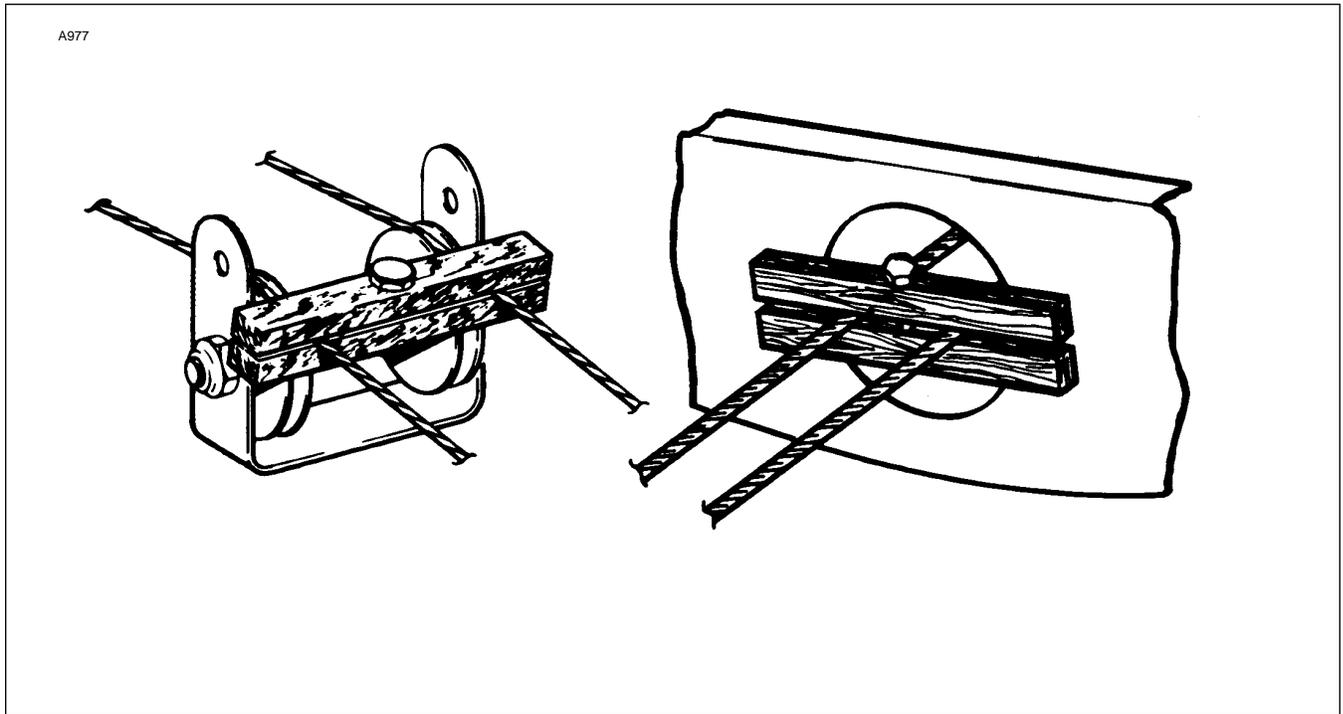

Figure 5-8. Methods of Securing Trim Cables
- d. With the stabilator centered, turn the trim wheel (1) until the aft end of the turnbuckle (10) of the right trim cable (8) is approximately two inches forward of the double pulleys (13) at the top of the rear bulkhead at station 228.3.
- e. Check that the trim screw (23) is turned down until the cotter pin stop in the stop of the screw is contacting the plate (17) on the horizontal support rib (16) of the trim assembly. If the stop is not contacting the plate, the links (25) between the screw (23) and the trim control arm (28) are not disconnected, disconnect the two by removing the connecting nut, washers and bolt (24). With the turnbuckle still at the two inch dimension from the pulley, turn the screw down until the pin contacts the plate.
- f. Check the rod end (26) on the tab actuating arm (28) for approximately six threads forward of the jam nut (27).
- j. To obtain correct travel, if incorrect, adjust by disconnecting the links (25) at the actuating arm rod end (26) and turning the end in or out as required. Reconnect links to rod end.
- k. Secure the jam nut (27) on the actuating arm rod end.
**5-24. REMOVAL OF RUDDER AND STEERING PEDAL ASSEMBLY.** (Refer to Figure 5-8.)
- f. Disconnect the control cable ends (19) from the arms on the torque tube (3) by removing the cotter pins, washers, nuts and bolts (20).
- h. Disconnect the steering rods (21) at the inboard rudder bars (14) by removing nuts and bolts (24).
- i. Disconnect the brake cylinders (12) at the lower end of each cylinder rod (11) by removing the cotter pins and clevis pins (13).
- j. Disconnect the vee braces (29) from the torque tube by removing nuts, washers and bolts (27) that secure the strap bracket (28) to the vee brace.
- k. Disconnect the torque tube support bracket (35) where it attaches by removing its attaching bolts.
- m. Disconnect the torque tube support blocks (7 and 8) from their support brackets on each side of the fuselage by removing the attaching nuts, washers and bolts (6).
- o. Remove the assembly from the airplane. Note the spacer washer (9) on each end and between the support blocks.
**5-25. INSTALLATION OF RUDDER AND STEERING PEDAL ASSEMBLY.** (Refer to Figure 5-8.)
- a. Assemble the torque tube assembly (1, 2, 3 and 4) as shown in Figure 5-8. Do not at this time install the two bolts (25 and 26) through the center of the tube assembly.
- b. Place the upper support blocks (7) on the ends of the torque tube assembly. Note that a washer (9) is required on each end of the tube.
- e. Position the torque tube support bracket (35) on the floor tunnel and secure with bolts.
- f. Position the vee braces (29) on the torque tube; install the strap bracket (28) around the torque tube and brace and secure with bolts, washers and nuts (27).
- g. Connect the ends of the brake cylinder rods (11) and clevis rods (15) to the idler arms (10) and secure with clevis and cotter pins (13).
- h. Connect the steering rods (21) to the rudder pedals (32 and 33) and secure with bolts and nuts (24). Check steering rod adjustment per Alignment of Nose Gear, Section VII .
- j. Connect the ends of the rudder control cables (19) to the arms provided on the torque tube and secure with bolts, washers, nuts and cotter pins (20). Allow the cable ends to rotate freely.
- k. Swing the tee bar into place and secure with attachment bolts, washers and nuts (15) with the bolts inserted in through each side of the floor panel.